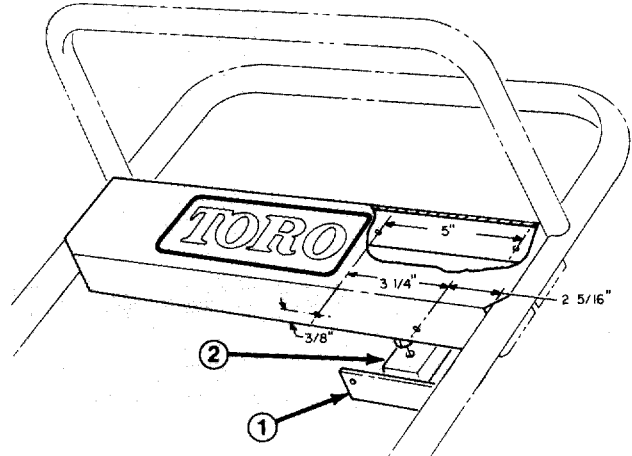

Figure 3
24. Using panel bottom as a template and dimensions in Fig. 3, locate and drill (4)  $\frac{5}{32}$ " (.156) dia. holes in front and back of control panel.